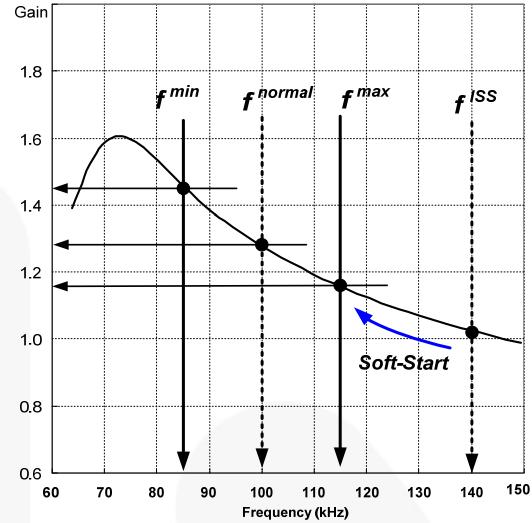
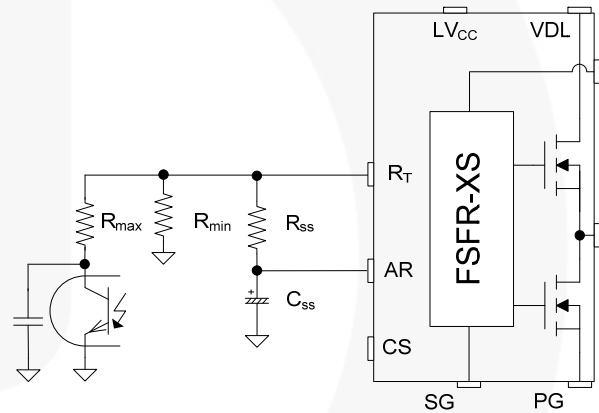
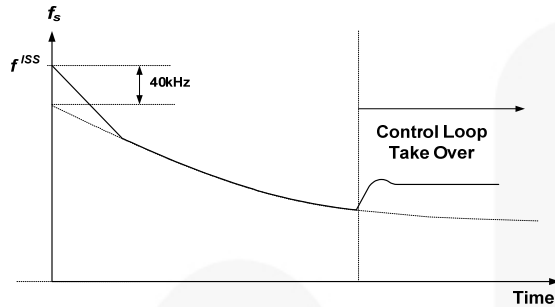

Figure 17. Resonant Converter Typical Gain Curve
Figure 18. Frequency Control Circuit
Figure 19. Frequency Sweeping of Soft-Start
**3. Frequency Setting:** Figure 17 shows the typical voltage gain curve of a resonant converter, where the gain is inversely proportional to the switching frequency in the ZVS region. The output voltage can be regulated by modulating the switching frequency. Figure 18 shows the typical circuit configuration for the  $R_T$  pin, where the opto-coupler transistor is connected to the  $R_T$  pin to modulate the switching frequency.
To prevent excessive inrush current and overshoot of output voltage during startup, increase the voltage gain of the resonant converter progressively. Since the voltage gain of the resonant converter is inversely proportional to the switching frequency, the soft-start is implemented by sweeping down the switching frequency from an initial high frequency ( $f^{ISS}$ ) until the output voltage is established. The soft-start circuit is made by connecting R-C series network on the  $R_T$  pin, as shown in Figure 18. FSFR-XS series also has a 3ms internal soft-start to reduce the current overshoot during the initial cycles, which adds 40 kHz to the initial frequency of the external soft-start circuit, as shown in Figure 19. The initial frequency of the soft-start is given as: